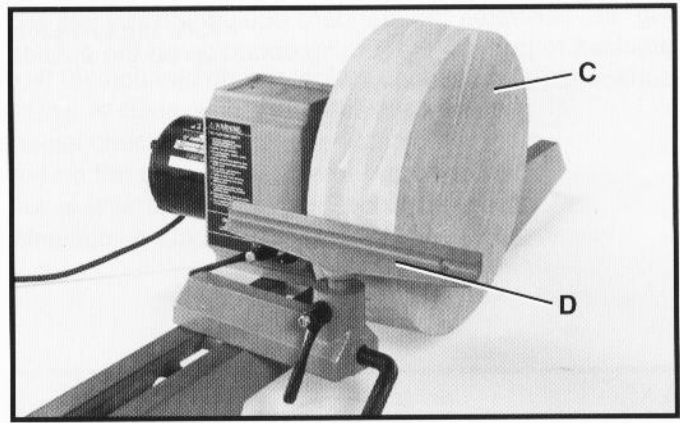

Fig. 89
2. The workpiece (C) Fig. 89, is then mounted to a faceplate and the faceplate is threaded onto the spindle, as shown.
3. Note that the standard equipment tool rest (D) Fig. 89, can be used to turn the outside diameter of the workpiece.